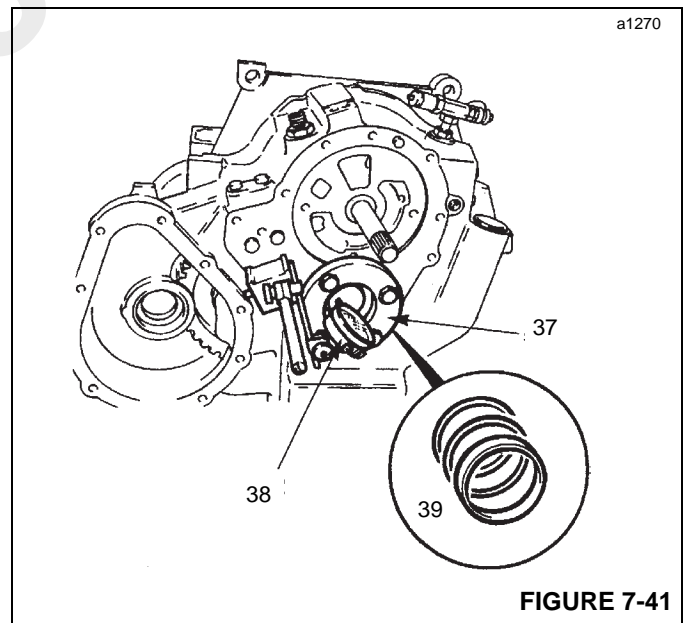

FIGURE 7-41
37. Install tool (37, Figure 7-41) over the mainshaft end bearing as shown. Tighten securing bolts to a torque of 56 Nm (42 lb-ft).
38. Measure main shaft end play (38), which should be 0.03 to 0.08 mm (0.001 to 0.003 in).